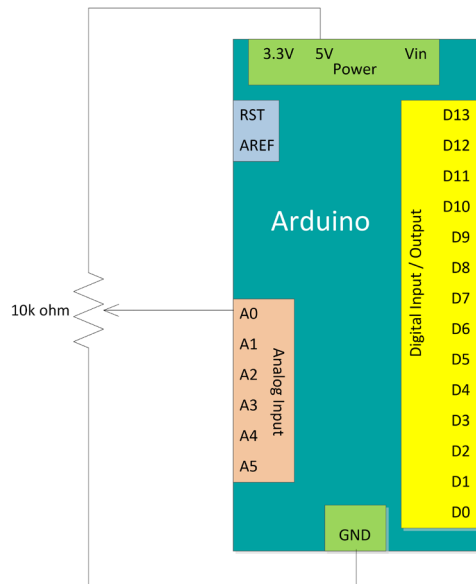

Figure 9-6. Schematic diagram of potentiometer connected to Arduino™ Uno
1. Construct the circuit shown in Figure 9-6. Connect the potentiometer to the Arduino™ using clip leads and short jumpers.